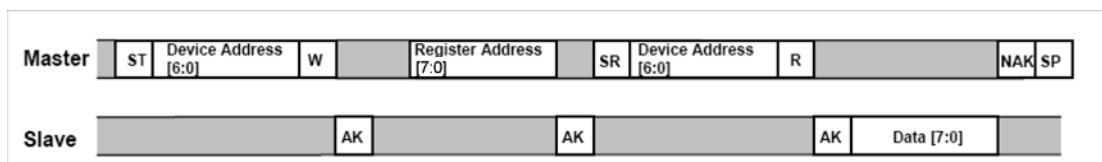

Figure 7. Single Byte Read - The Master is reading one address from the MMA7455L
The MMA7455L has an 8-bit ADC that can sample, convert and return sensor data on request. The transmission of an 8-bit command begins on the falling edge of SCL. After the eight clock cycles are used to send the command, note that the data returned is sent with the MSB first once the data is received. Figure 7 shows the timing diagram for the accelerometer 8-bit I²C read operation. The Master (or MCU) transmits a start condition (ST) to the MMA7455L, slave address (\$1D), with the R/W bit set to "0" for a write, and the